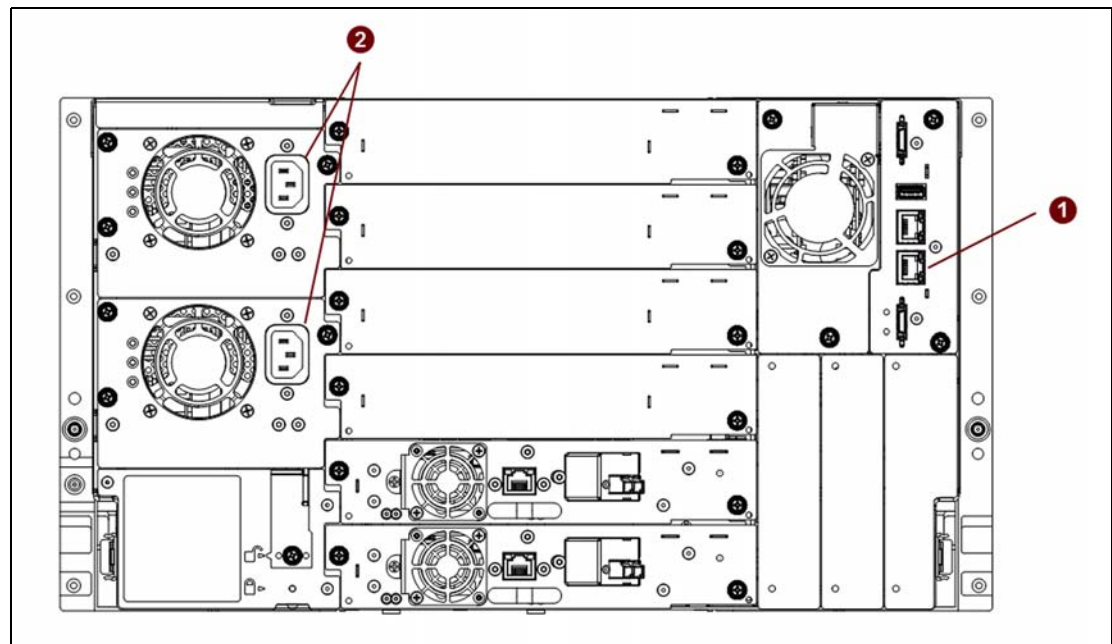

Figure 16 Connect an Ethernet cable and power cords.
For each power supply, plug a cord into the power module, then plug the cord into the AC supply (2) (see Figure 16 on page 31).